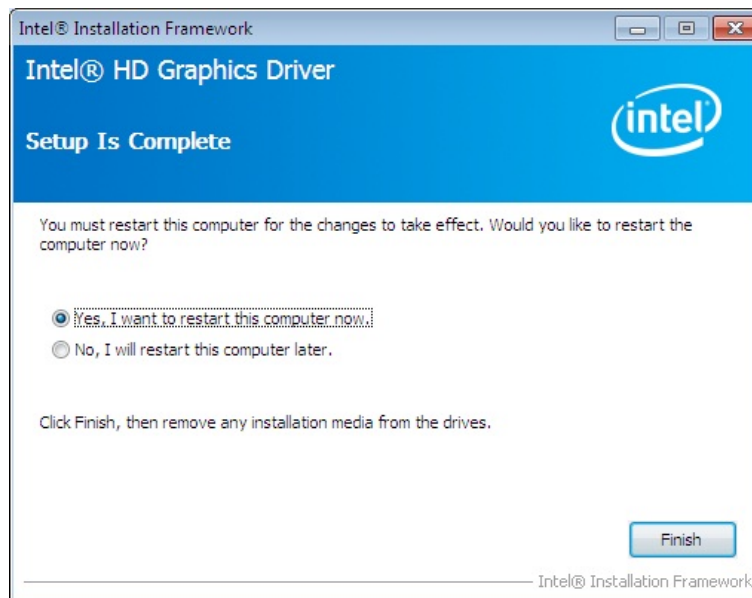

Figure 6-10: Graphics Driver Installation Finish Screen
Step 11: The **Finish** screen in Figure 6-10 appears.